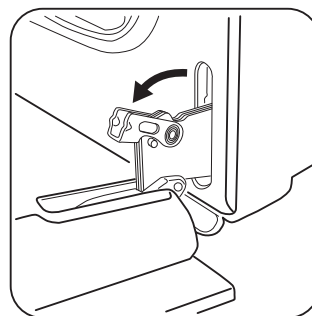

Figure 33: Door hinge locks
2. Lift and turn/pull the levers on both of the door hinge locks down from the oven frame completely towards the oven door (Figure 33). A tool such as a small flat-blade screwdriver may be required.
4. Lift and turn/push the levers on both of the door hinge locks up towards and into the oven frame to the locked position (Figure 33).